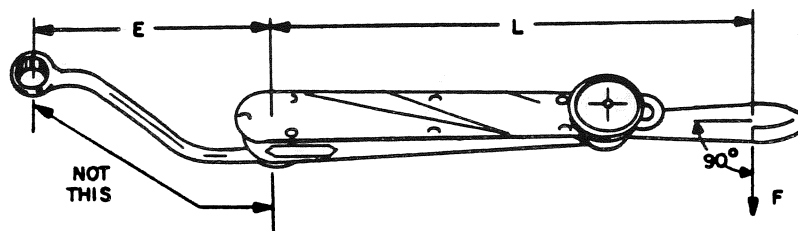

Figure 5.22. Adapter Attached to Square Drive
12. This adaptor or wrench affects the dial reading. Factor "E" is involved and therefore a correction is necessary. Note that "E" is not the length of the adaptor but only the increase in length parallel to the torque wrench. (See Figure 5.22.)